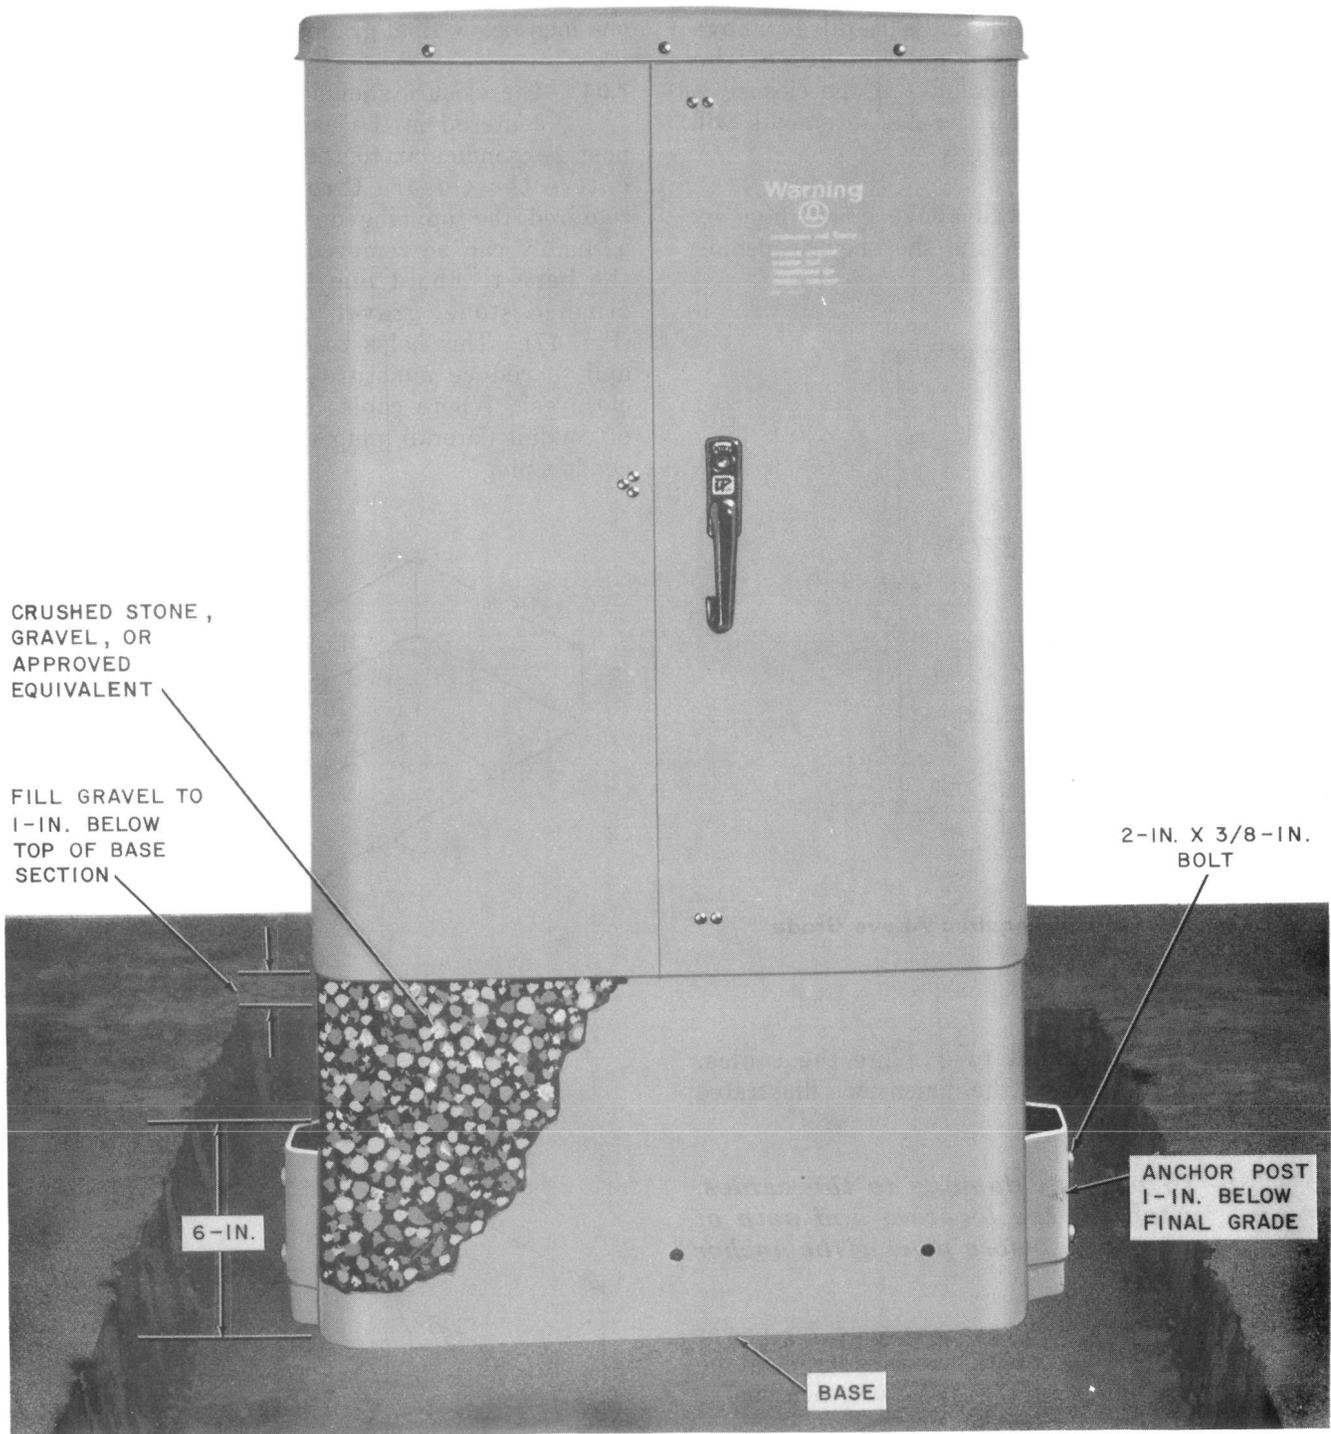

Fig. 17—Closure Placed (UP-1254)
7.04 The closure should be placed with the base centered in the excavation and the anchor post perpendicular to the cable path. The cable enters the closure through the base. (When required, the top, hinged doors, and ground bracket assembly can be removed from the closure.) Fill the base to about one inch from the top with crushed stone, gravel, or approved equivalent (Fig. 17). This helps to eliminate rodent damage and to reduce moisture condensation inside the closures. Where cables enter closures by means of conduit (lateral), plug the conduit with a rubber conduit plug.